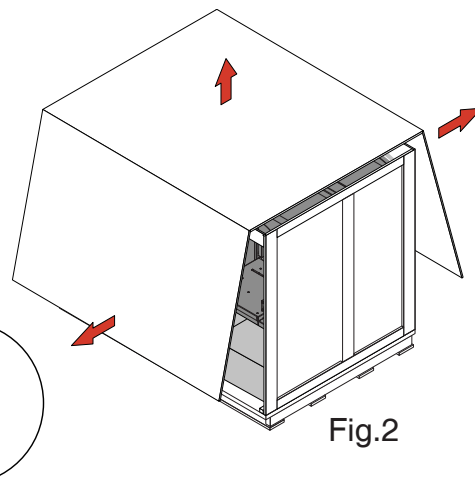

Fig.2
- Remove the cardboard (Fig.2).
- Remove the wooden side panel and frame (Fig.2).